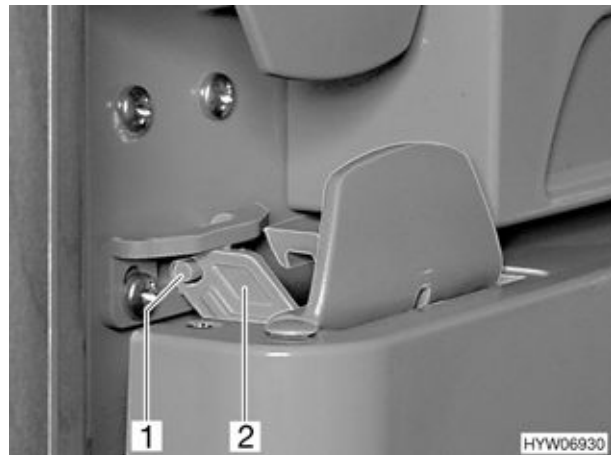

Fig. 152 Refrigerator door in the ventilation position (variant 2)
- Open lock (Fig. 152,2) and snap in at the pin (Fig. 152,1). The refrigerator door will then stay slightly open.